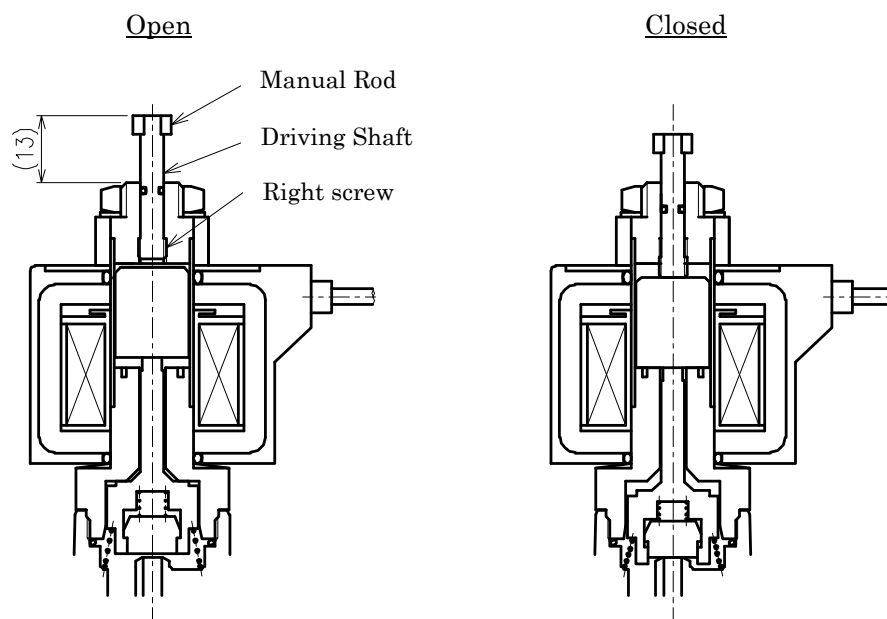

Figure 5. Operation method of the manual override
- (1) The Manual Rod is threaded. Pinch the Manual rod and rotate it clockwise. The Manual rod will stop to rotate after it sinks 5-6mm, and the valve will close (refer to figure 5.) .
- (2) After operation, return the Manual Rod to its initial position by rotating it counterclockwise as far as possible.